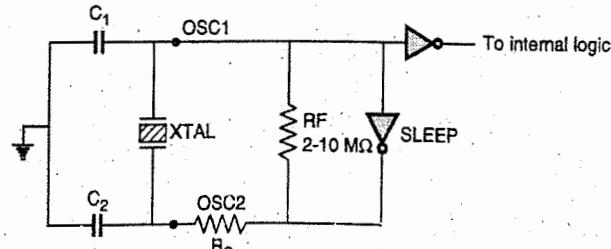

Fig. 4.13.3 : Crystal oscillator for XT, LP, HS and HS4 modes
- Fig. 4.13.3 shows the crystal oscillator for LP, XT, HS and HS4 modes.
- As shown in Fig. 4.13.3 the crystal oscillator is connected to the OSC1 and OSC2 pins. A series or parallel cut crystal is used.